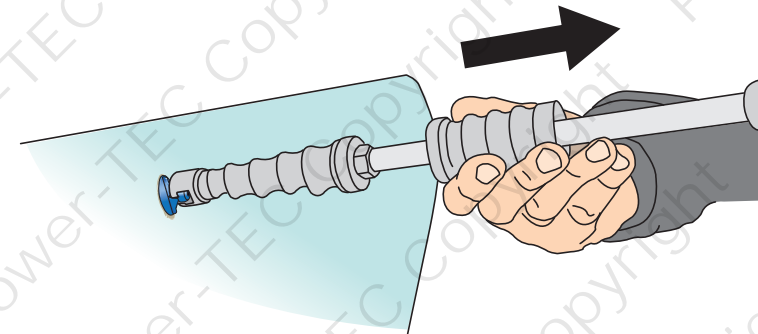

Fig. 3
7. Use the slide hammer with steady, sharp blows (see Fig. 3).